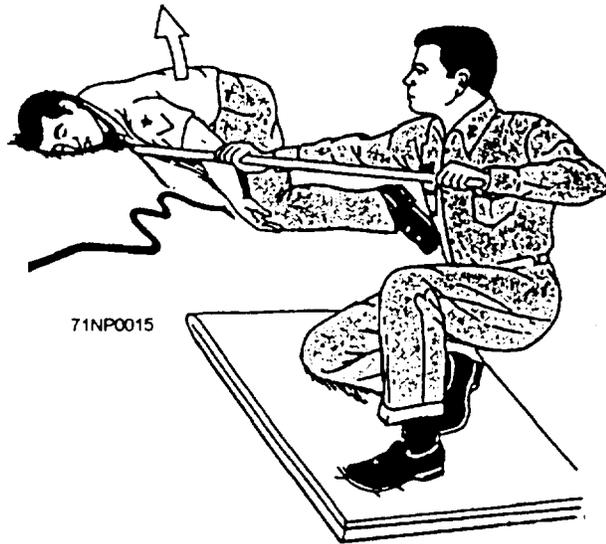

Figure 1-9.—Pushing a victim away from a power line.
- If the victim is in contact with stationary equipment (fig. 1-9), such as a bus bar or electrical connections, pull the victim free if the equipment cannot be quickly de-energized or the ship's operations or survival prevent immediate securing of the circuits. To save time in pulling the victim free, improvise a protective insulation for the rescuer. For example, instead of hunting for a pair of rubber gloves to use in grasping the victim, you can safely pull the victim free (if conditions are dry) by grasping the victim's slack clothing, leather shoes, or by using your belt. Instead of trying to locate a rubber mat to stand on, use nonconducting materials, such as deck linoleum, a pillow, a blanket, a mattress, dry wood, or a coil of rope.